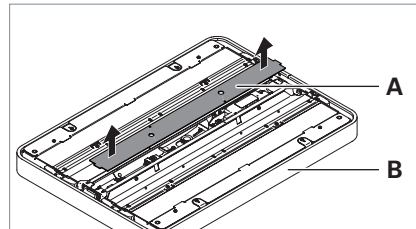

Fig. 20: Removing the cover.
- ▶ Unscrew the two screws in the cover **A** and take the cover off the light head **B**, see Fig. 20.